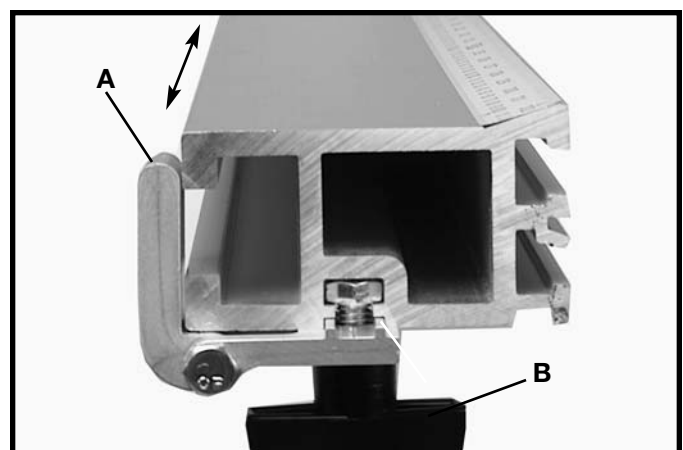

Fig. 67
1. The Rail Stop Assembly Fig. 67 (A) can be set to any number of positions along the guide rail providing a quick stop setting for the Unifence body by loosening knob (B) and sliding the stop along the rail to the desired position (←→) and re-tighten.